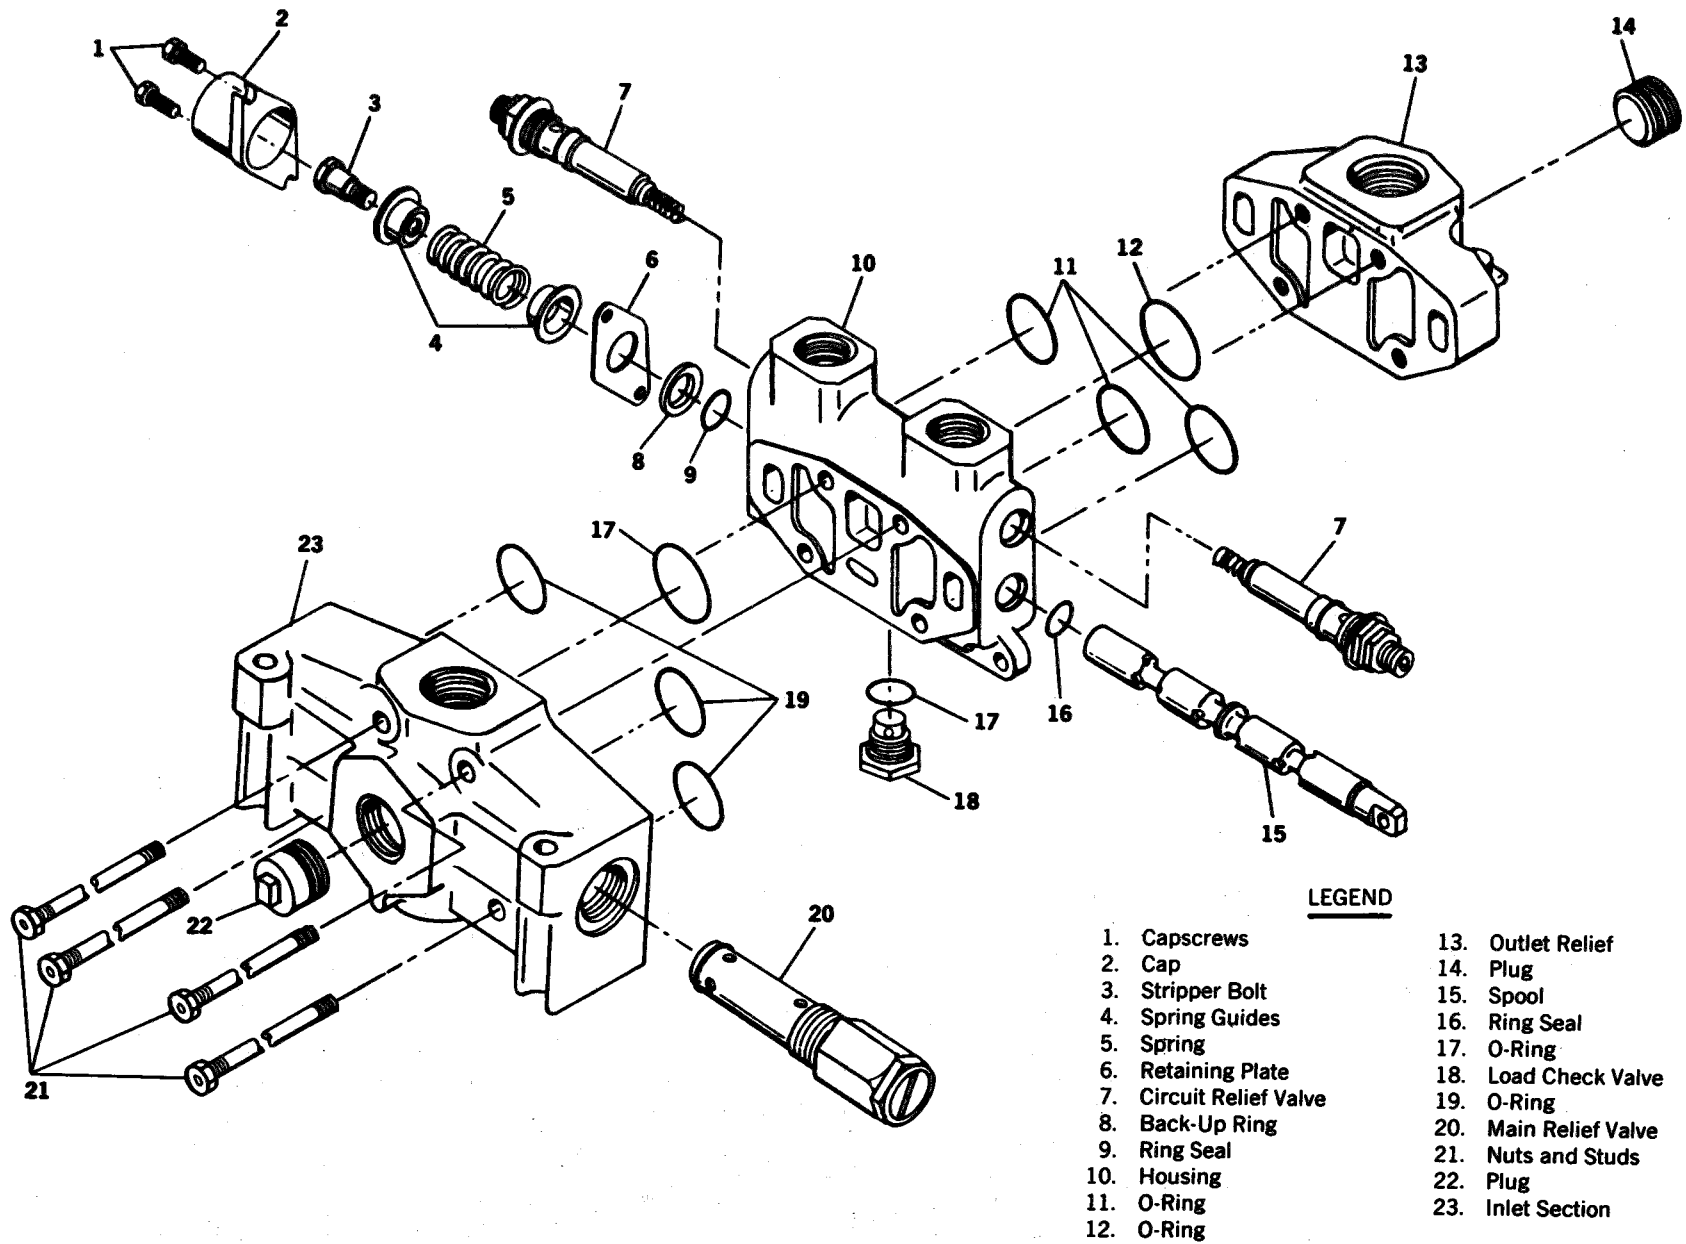

Figure 8-4. Hydraulic Control Valve
- e. Remove nuts (21, figure 8-4) and separate valve sections. Remove and discard O-rings (11, 12, 17, and 19).
- g. Remove capscrews (1), cap (2), and spool (15).
- h. If necessary, remove stripper bolt (3), spring guides (4), spring (5), retaining plate (6), back-up ring (8), and ring seal (9 and 16).
- a. Position spring guides (4, figure 8-4) on spring (5) and place spring on spool (15). Install stripper bolt (3).
- b. Position back-up ring (8) and retaining ring (6) against spring (5).
- c. Install ring seals (9 and 16) in spool bore of housing (10).
- d. Install assembled spool (15), position cap (2), and install capscrews (1).